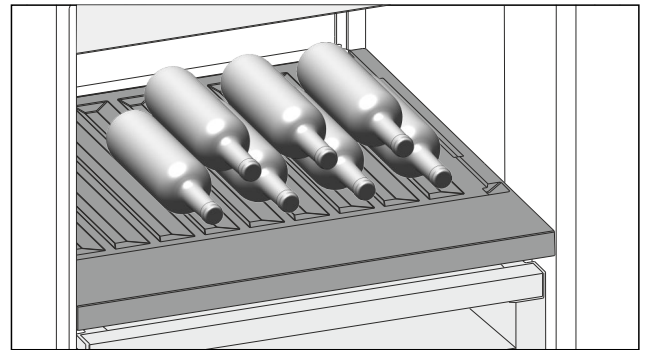

Fig. 113
- Insert the bottles facing backwards towards the rear wall. (see Fig. 113)